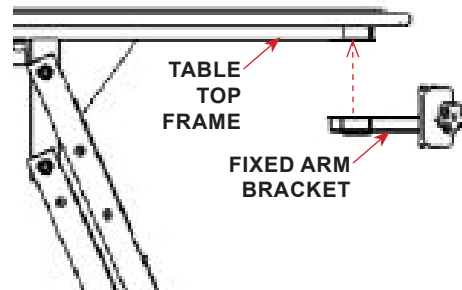

FIGURE 2.10 - Fixed Arm Bracket
STEP 1: Secure the fixed arm bracket to the underside of the table top frame using the hardware provided. See FIGURE 2.10